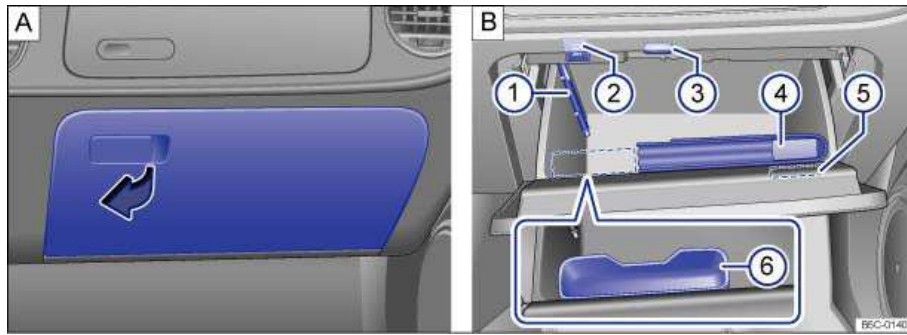

Fig. 104 A: On the passenger side: Lower glove compartment. B: Open glove compartment.
Key to fig. 104 B:
The lower glove compartment is designed to hold the Owner's Manual ⇒ fig. 104 B (4).
⇒ fig. 104 B \(2\).
Depending on equipment, there may be a jack for the factory-installed Media Device Interface (MDI)/(MEDIA-IN) ⇒ fig. 104 B \(3\) in the glove compartment.
There are holders for a pen and a notepad in the lower glove compartment lid ⇒ fig. 104 B \(1\) and \(5\).
⇒ fig. 104 B \(6\) in the glove compartment.